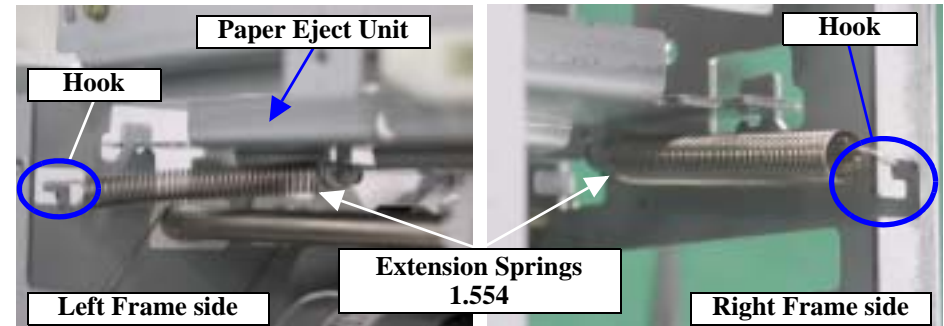

Figure 4-48. Removing the Extension Springs 1.554
- Make sure that the two Extension Springs 1.554 are fitted in the correct positions. Refer to Figure 4-48, "Removing the Extension Springs 1.554".